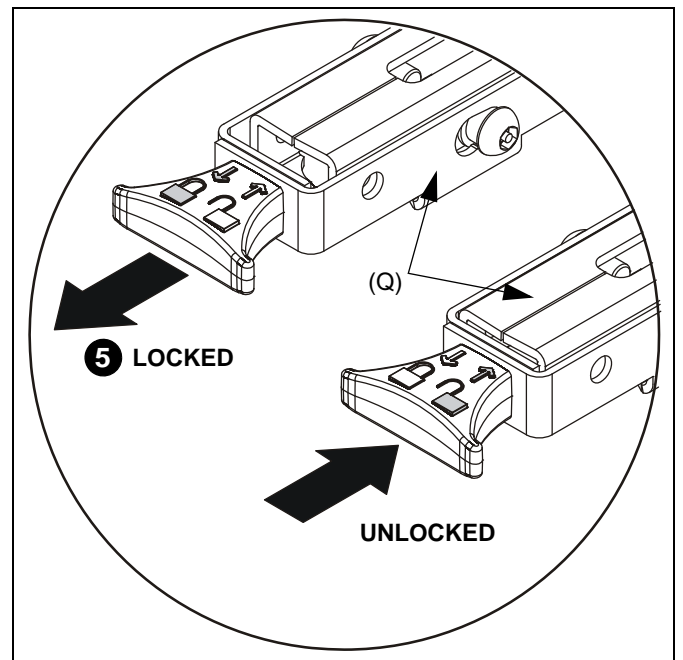

Figure 3
NOTE: Make sure interface legs (Q) are in the **UNLOCKED** position. (See Figure 3)
- Ensure that interface leg is firmly seated over screw adapter, and pull out end of interface leg to lock in place over screw adapter. (See Figure 3)